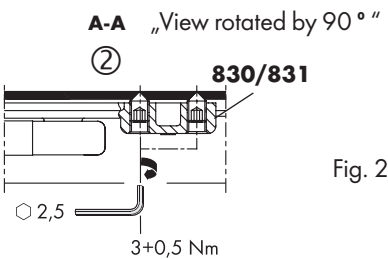

Fig. 2
- ② Secure grub screws (see Fig. 2) (torque $3 + 0.5$ Nm).